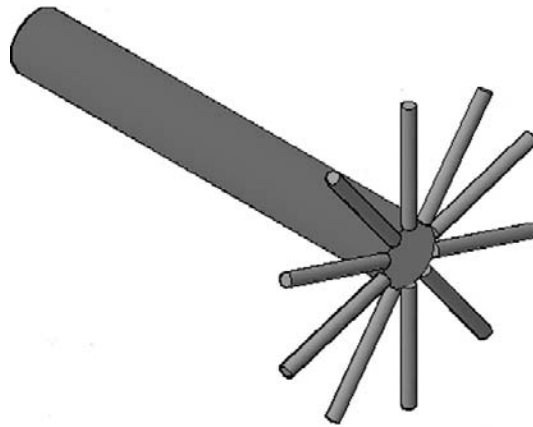

FIGURE 23.16
- Step 8.** Here, you need to pick the second center point using OSNAPs on the other side of the axle. These two points together indicate the axis of rotation for the spokes. The result is shown in Figure 23.16.